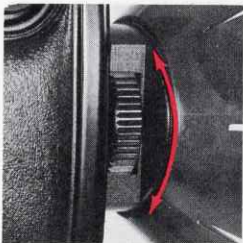

FIG. 8
3. Turn the milled adjustment wheel [13] (Fig. 8) first clockwise, then counterclockwise, until image is sharpest in the circular microprism area.